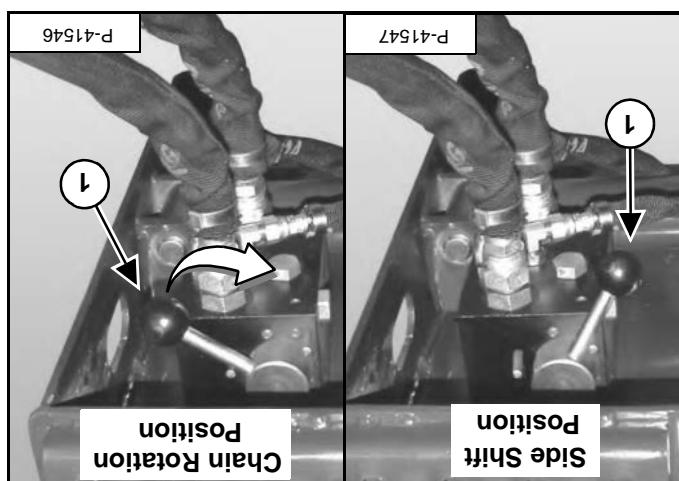

Figure OI-94
Move the selector valve lever (item 1) to the side shift position [Figure OI-94].